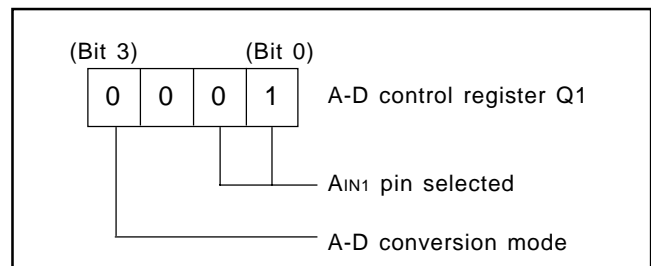

Fig. 29 Setting registers
- ① Select the AIN1 pin function and A-D conversion mode with the register Q1 (refer to Figure 29).
- ② Execute the ADST instruction and start A-D conversion.
- ③ Examine the state of ADF flag with the SNZAD instruction to determine the end of A-D conversion.
- ④ Transfer the low-order 2 bits of converted data to the high-order 2 bits of register A (TALA instruction).
- ⑤ Transfer the contents of register A to M (Z, X, Y) = (0, 0, 2).
- ⑥ Transfer the high-order 8 bits of converted data to registers A and B (TABAD instruction).
- ⑦ Transfer the contents of register A to M (Z, X, Y) = (0, 0, 1).
- ⑧ Transfer the contents of register B to register A, and then, store into M(Z, X, Y) = (0, 0, 0).